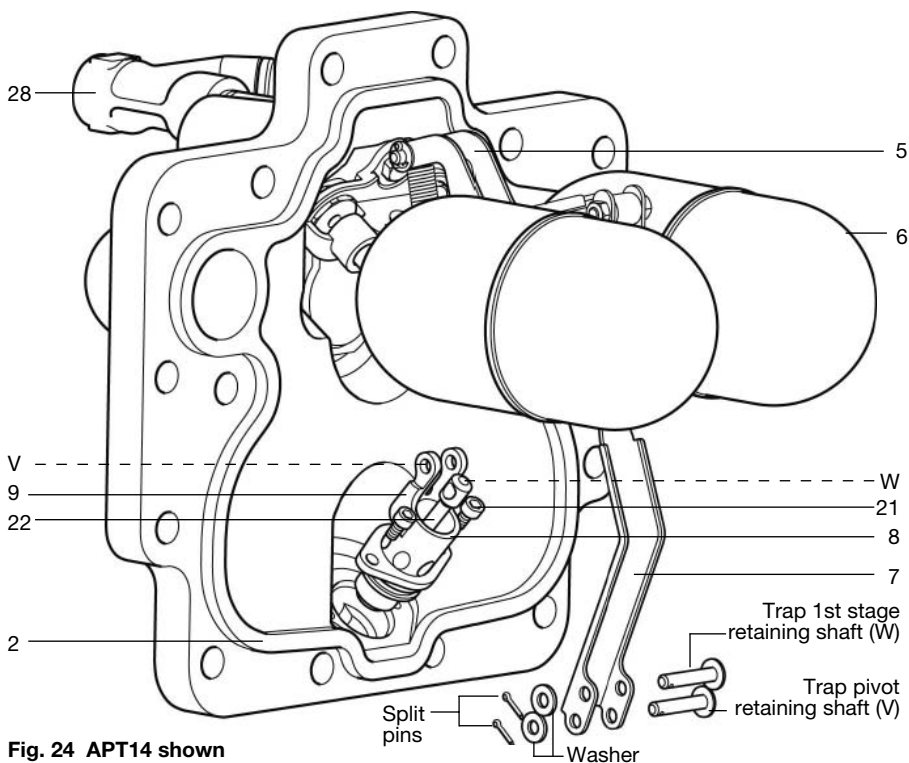

Fig. 24 APT14 shown
3. Carefully fit a new gasket (item 2) into the existing body.
4. Remove split pin, washer and shaft from the trap pivot (V) (See Figure 24).
5. Remove split pin, washer and shaft from the trap 1st stage valve (W).
6. The floats and levers (items 5, 6 ,7) can now be swung out of the way leaving access to the trap and check valve assembly.
7. Using the 4 mm Allen key unscrew the two M5 cap screws (item 21).
12. Tighten the two M5 cap screws (item 21) to 5 ± 1 N m (4 ± 0.7 lbf ft).
13. Refit the two shafts (V and W) (length 38 mm) - remembering to use new split pins and washers - to the trap housing (item 9) and trap 1st stage valve (item 22).
14. Move the floats to their upper and lower limits to ensure the trap mechanism operates smoothly and both the 1st stage and 2nd stage valves (items 22, 8) slide smoothly within their guides.